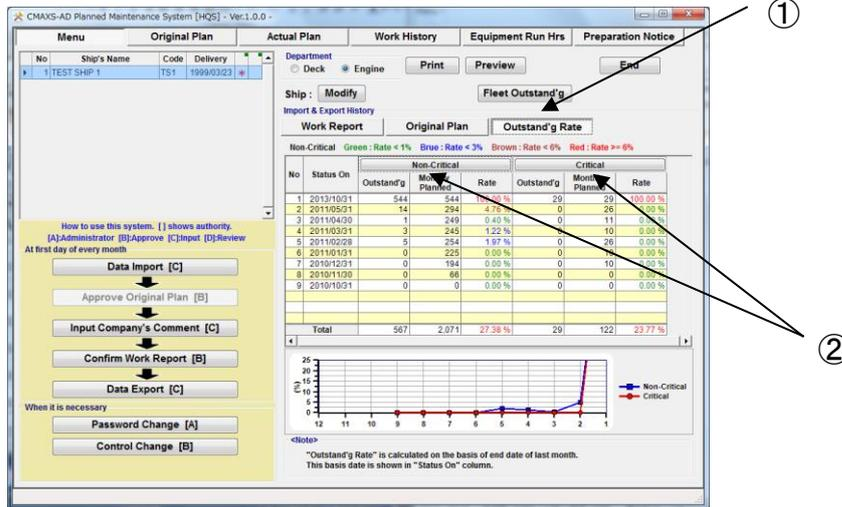

Fig.16-3 Menu Screen
- (1) On the “Menu” screen(Fig. 16-3) Select “Outstand’g Rate” in “Import & Export History” area.
- (2) Select the “Non-Critical” or ”Critical” button to display “Outstanding Rate for last 12 month” screen.